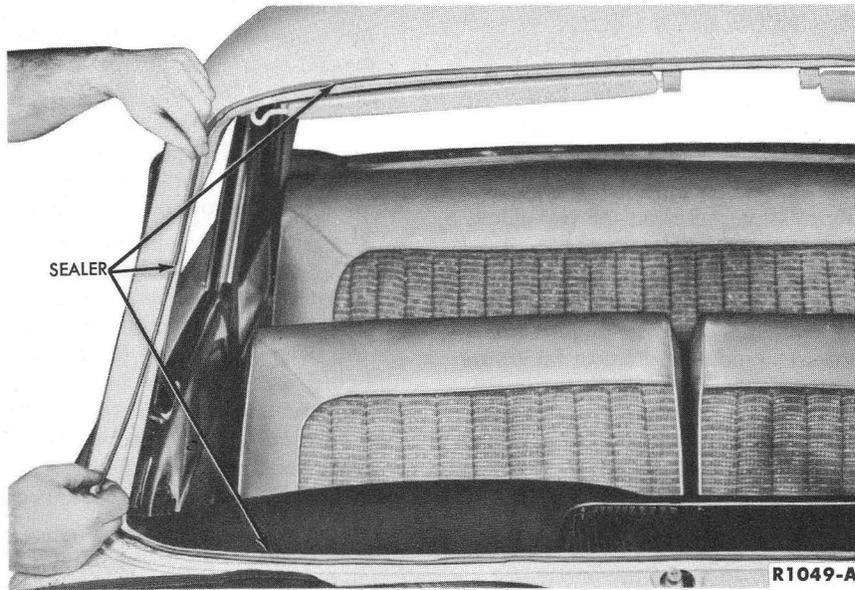

FIG. 15—Sealer Application
10. Apply a bead of sealer to the windshield opening flange. (Fig. 15).